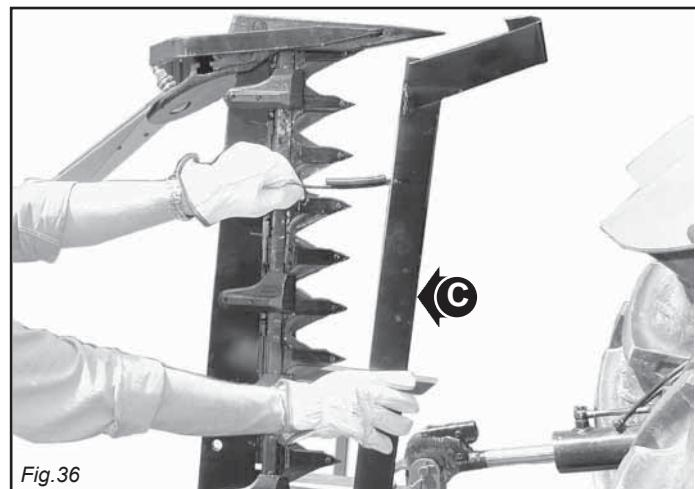

Fig. 36
- Fit the guards over the cutters and outer skid (C, Fig. 36)